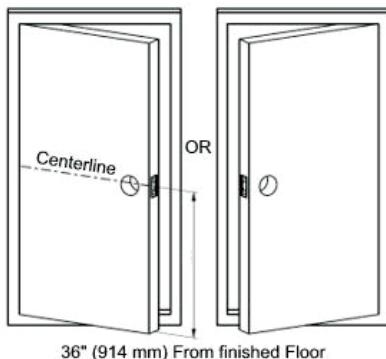

Fig. 1
1.1 Mark the centerline of the door and jamb (frame) (see fig. 1).